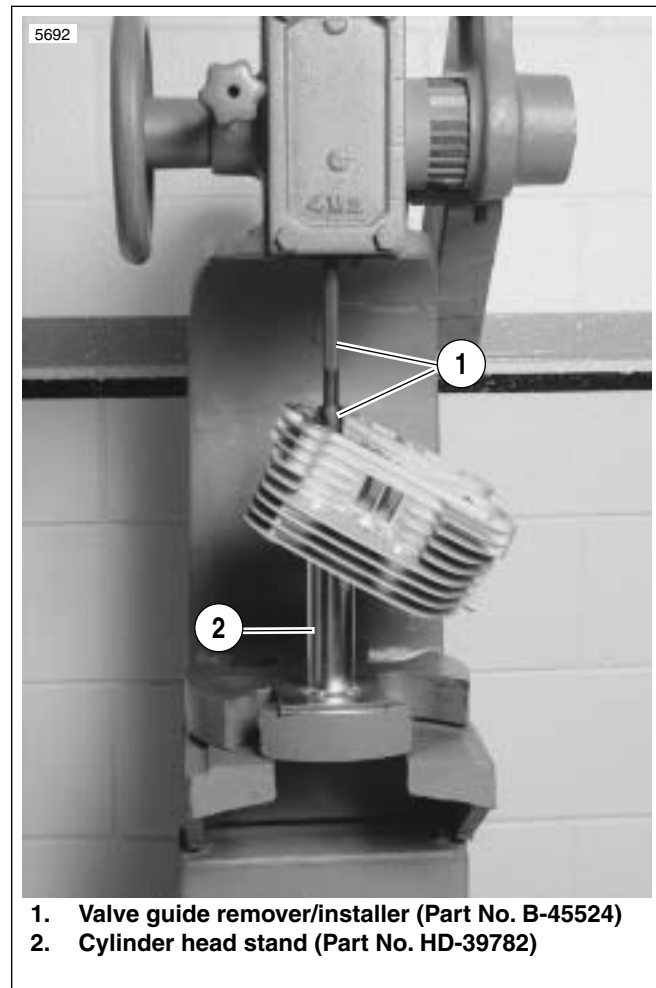

Figure 3-71. Installing Shoulderless Valve Guide
4. See Figure 3-71. Install shoulderless guides using VALVE GUIDE REMOVER/INSTALLER TOOL (Part No. B-45524). Press or drive guide until the tool touches the machined surface surrounding the guide. At this point, the correct guide height has been reached.